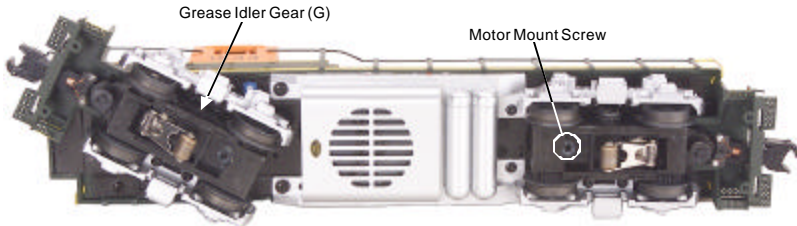

Figure 7. Locations of Greasing Points on the Locomotive
2. Once the body is removed, remove the trucks by unscrewing the black Phillips motor mount screw located on the underside of the drive trucks (see Fig. 7 on pg. 13).
Lubricate the outside truck block idler and drive gears with grease. Use the diagram shown in Figure 7 above as a guide and add grease to the points marked with a “G.”